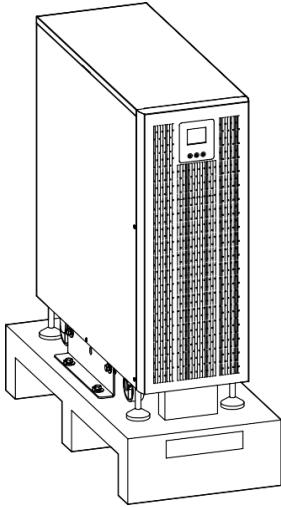

Figure3-2 Appearance after unpacking
Step 4 Remove the package and take out the optional components and user manual. The appearance after unpacking is as shown in Figure3-2.